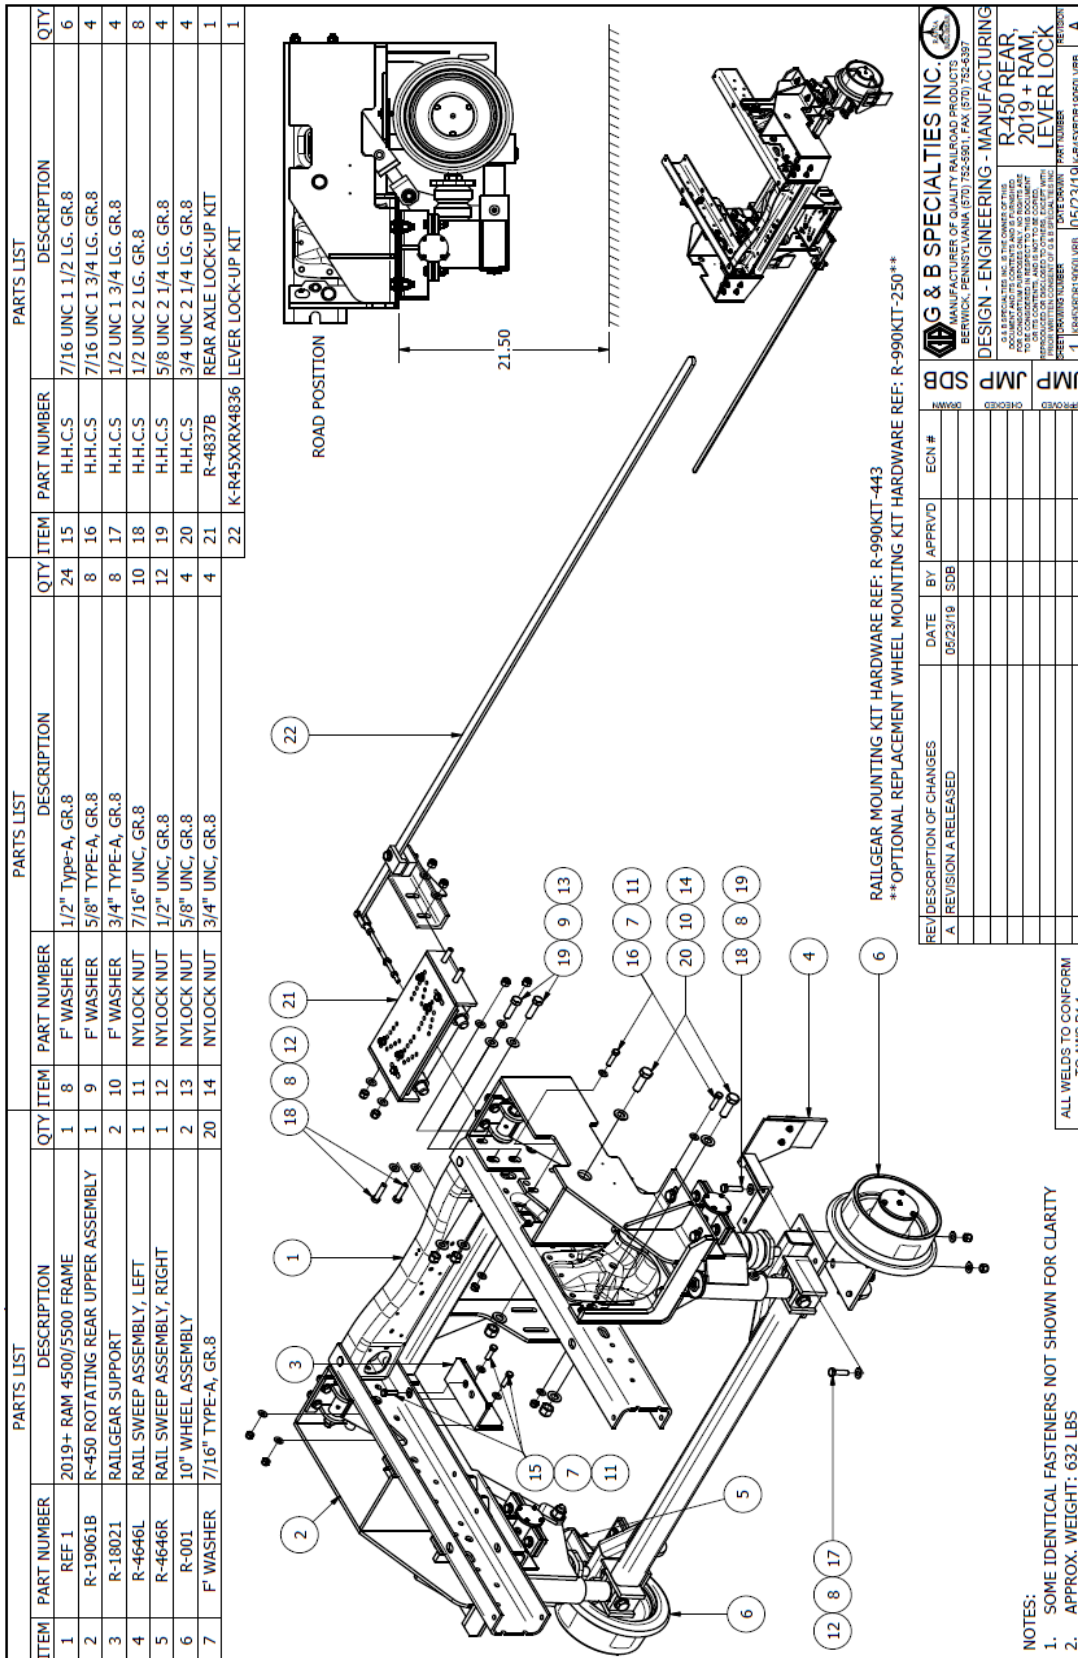

Figure 1
3. Ensure that there is approximately 21.5" between the railgear-to-mounting box interface and the ground as shown in Figure 1. The slots in the mounting boxes will allow for approx. 1/4" of vertical adjustment, either up or down. If the 21.5" mounting height cannot be achieved, the vehicle suspension will need to be modified. This modification is not included with the RAFNA railgear.